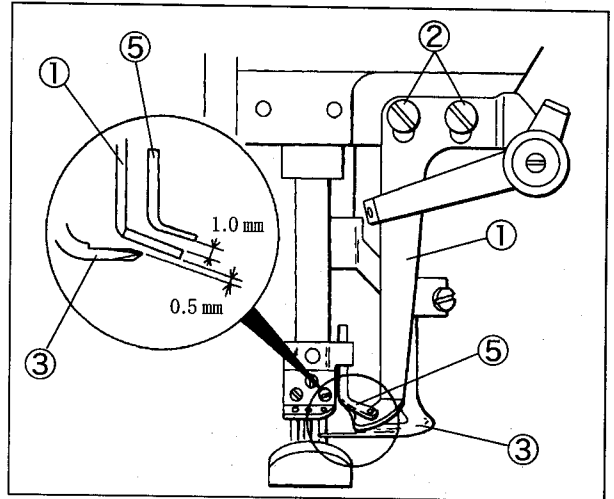

Fig. 50
- (1) Loosen the screws ② of the top cover thread guide ① . (Fig. 50)
- (2) Make the clearance between the top of the spreader ③ and the bottom of the top cover thread guide ① to 0.5 mm. (Fig. 50)
- (3) Set the hook ④ in the center of the slot of the top cover thread guide ① when the spreader ③ is at the extreme right. Then, tighten the screws ② securely. (Figs. 50 and 51)
- (2) Make the clearance between the top of the top cover thread guide ① and the top cover thread eyelet ⑤ to 1.0 mm when the needle bar is at the lowest point. (Fig. 50)